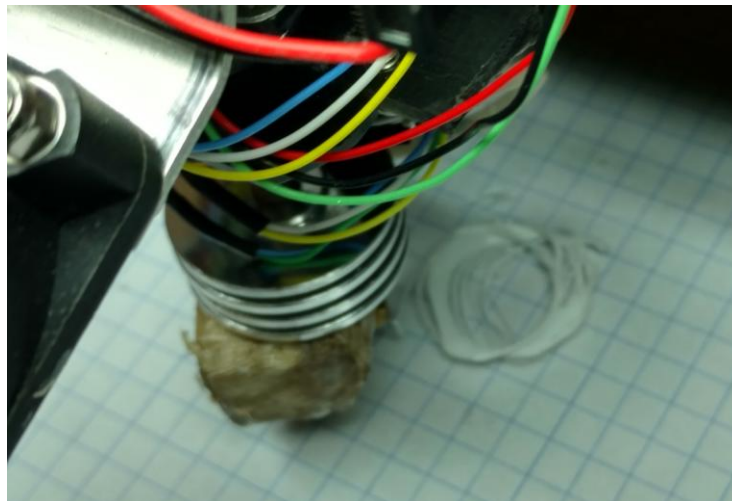

Figure 1.1: Drift in the print while printing a cylinder
- After all these changes there is still some drift in the nozzle tip while it prints and the possible reason for this is the errors that accumulate due to the truncation in the accuracy of the look up table. Figure 1.1 shows the drift while printing a cylinder.